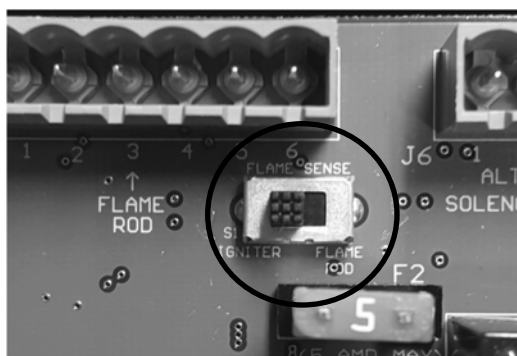

Fig. 1 - Switch is located in the upper left side of the circuit board.
*NOTE: Reference fig. 1 on page 23 for flame sensing switch.*
1. Position the flame sensing switch to desired setting: Flame Rod or Igniter. See Fig. 1